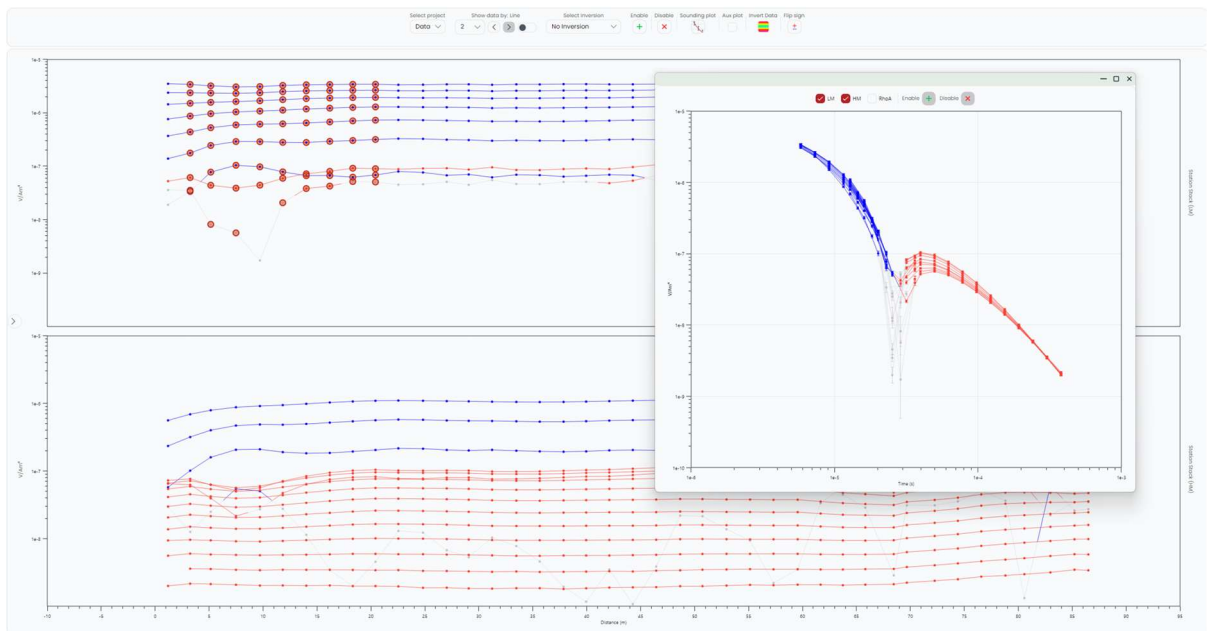

Figure 35: Example of a sign change in TEM data due to the presence of a very conductive near-surface layer (in this case saltwater)
- In areas with a very conductive near-surface layer, the signal may start negative and transition to positive (Figure 35)
- **Induced Polarization (IP) Effects**